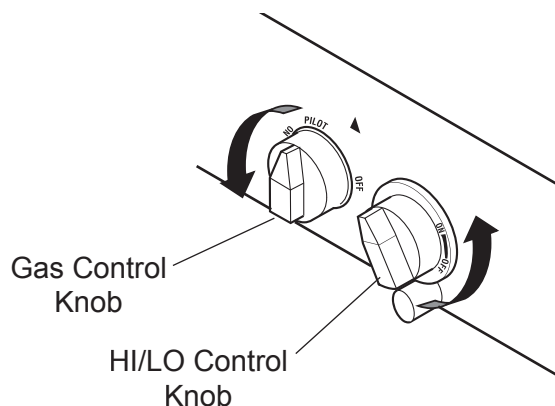

Figure 33 - Control Cover Plate for Hi/Lo Control
3. See *Figure 33* for the location of the control knob. Push in gas control knob slightly and turn control knob clockwise  to the OFF position.
10. Control flame with Hi/Lo control knob. See *Figure 33*.